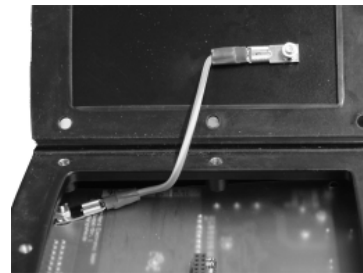

Fig. 2: PE connection on the technology unit
3. Attach the PE connection on the inside of the technology unit being mounted (see Fig. 2 on next page). Fit the seal together with the **technology unit** on the surface of the frequency inverter. Ensure that the multipoint connector has full contact.